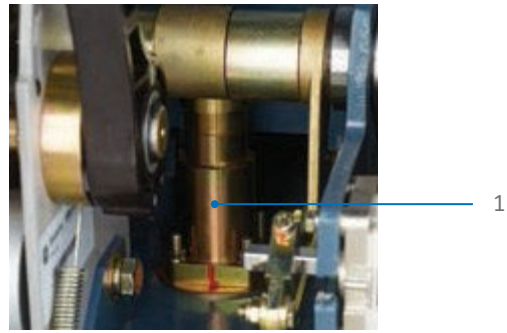

Figure 25: Oil Buffer Arrangement
- Visually check the oil buffer (dashpot, Figure 25, 1) for oil leakage or any other damage.
- Carry out the power frequency withstand (Hi-Pot) AC voltage test: Apply 75% of the power frequency (Hi-pot) AC voltage as per Table 9 for 1 min for each test conditions as listed in Figure 25 including vacuum bottle integrity test with contacts open.